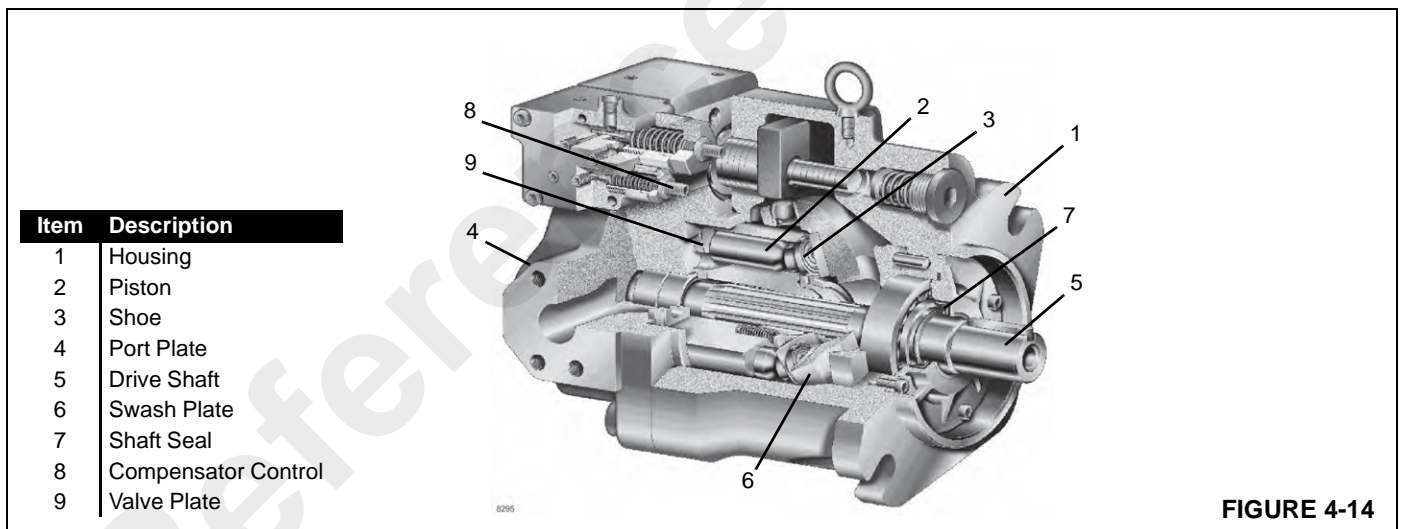

FIGURE 4-14
The pump basically consists of the housing (1, Figure 4-14), piston (2), shoes (3), port plate (4), drive shaft (5), swash plate (6), shaft seal (7), compensator (8) and valve plate (9).
When the system pressure falls below the compensator spring setting, spring force returns the spool back to the normal position, which drains the control piston (2, Figure 4-14) to the pump case drain. This causes the pump to de-stroke, reducing the fluid flow to the level required.